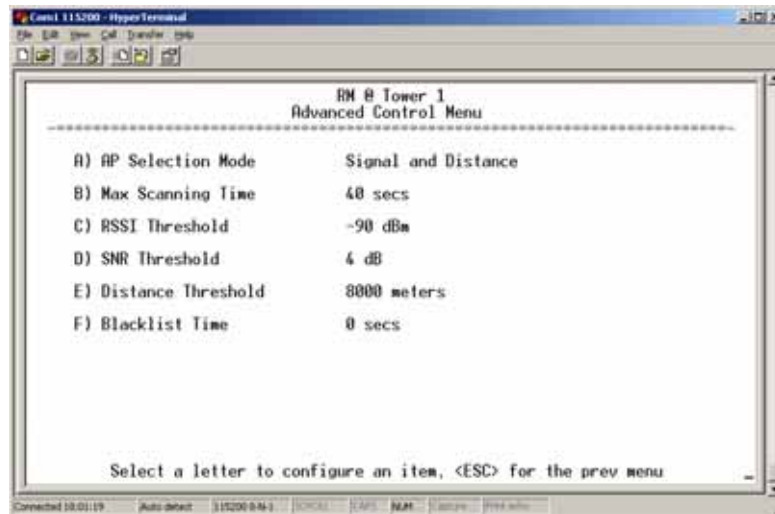

Figure 3-38. Advanced Control Menu
- **Advanced Control** (Remote only)—Brings up a submenu (see Figure 3-38) where additional communication parameters may be set.